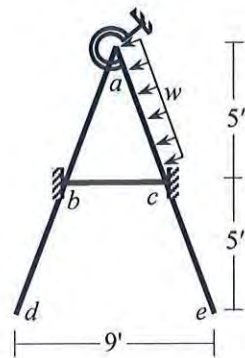

Fig.6
6. Use Stiffness Method (neglect axial deformations) to calculate rotation at joint *a* of the frame *abcde* loaded as shown in Fig.6, if the joint *a* is a circular foundation of radius 4 ft on the surface of subsoil (half-space) with shear wave velocity (v_s) equal to 470 ft/sec